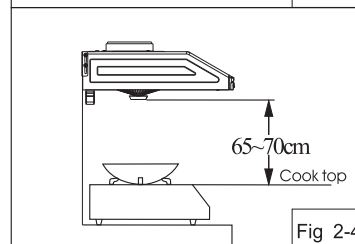

Fig 2-4
5. The minimum distance between the hob surface and the lowest part of the range hood. This distance shall be at least 65cm if the range hood is installed over a gas hob (Fig2-4).